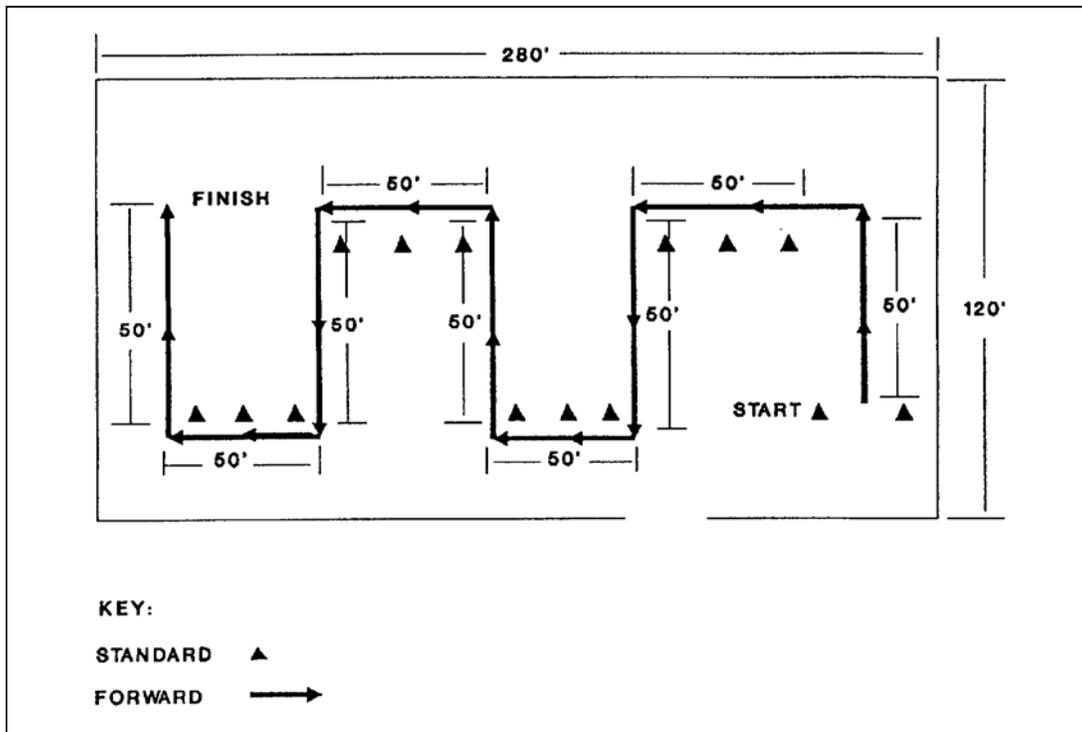

Figure 6-4. Light Vehicle Right/Left Turns.
- Figure 6-4, light vehicle right/left turns.